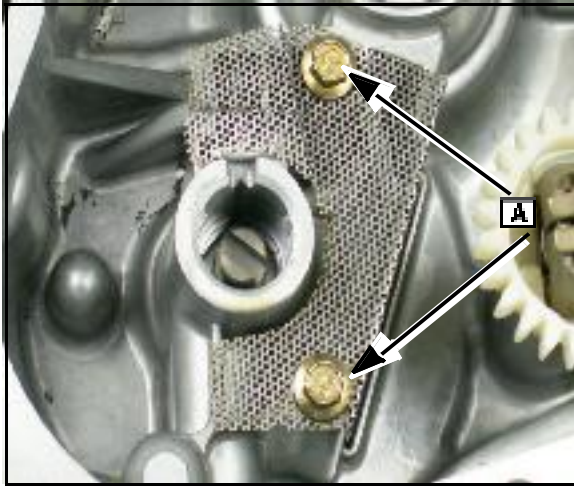

Fig. 12
1. Remove two screen retaining screws ([A] Fig. 12). Clean or replace as needed.